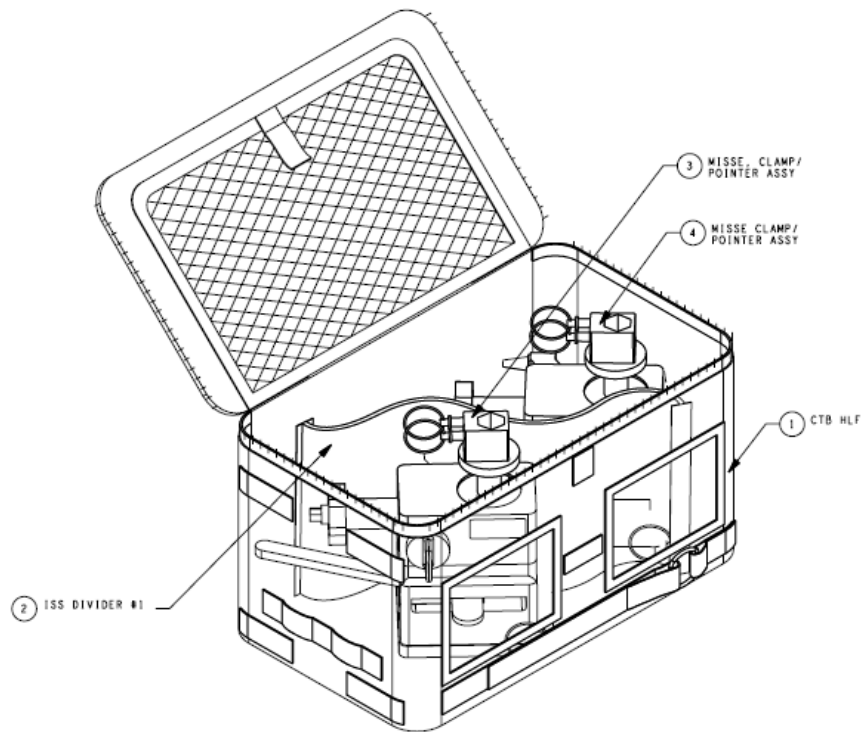

Figure 1: MISSE CLAMPS IN 0.5 CTB.
- 7.0 Place MISSE Clamp 1 in a Ziplock bag and place in 0.5 CTB with MISSE Clamp 2. Verify CTB divider is placed between the clamps (Figure 1).